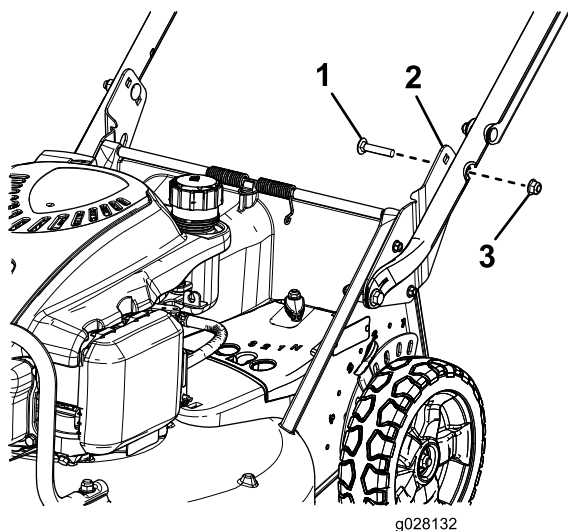

Figure 5
- Secure the handle onto the handle brackets at your desired handle height with 2 carriage bolts (5/16 x 1-1/2 inches) and 2 flange nuts (5/16 inch) as shown in Figure 5.